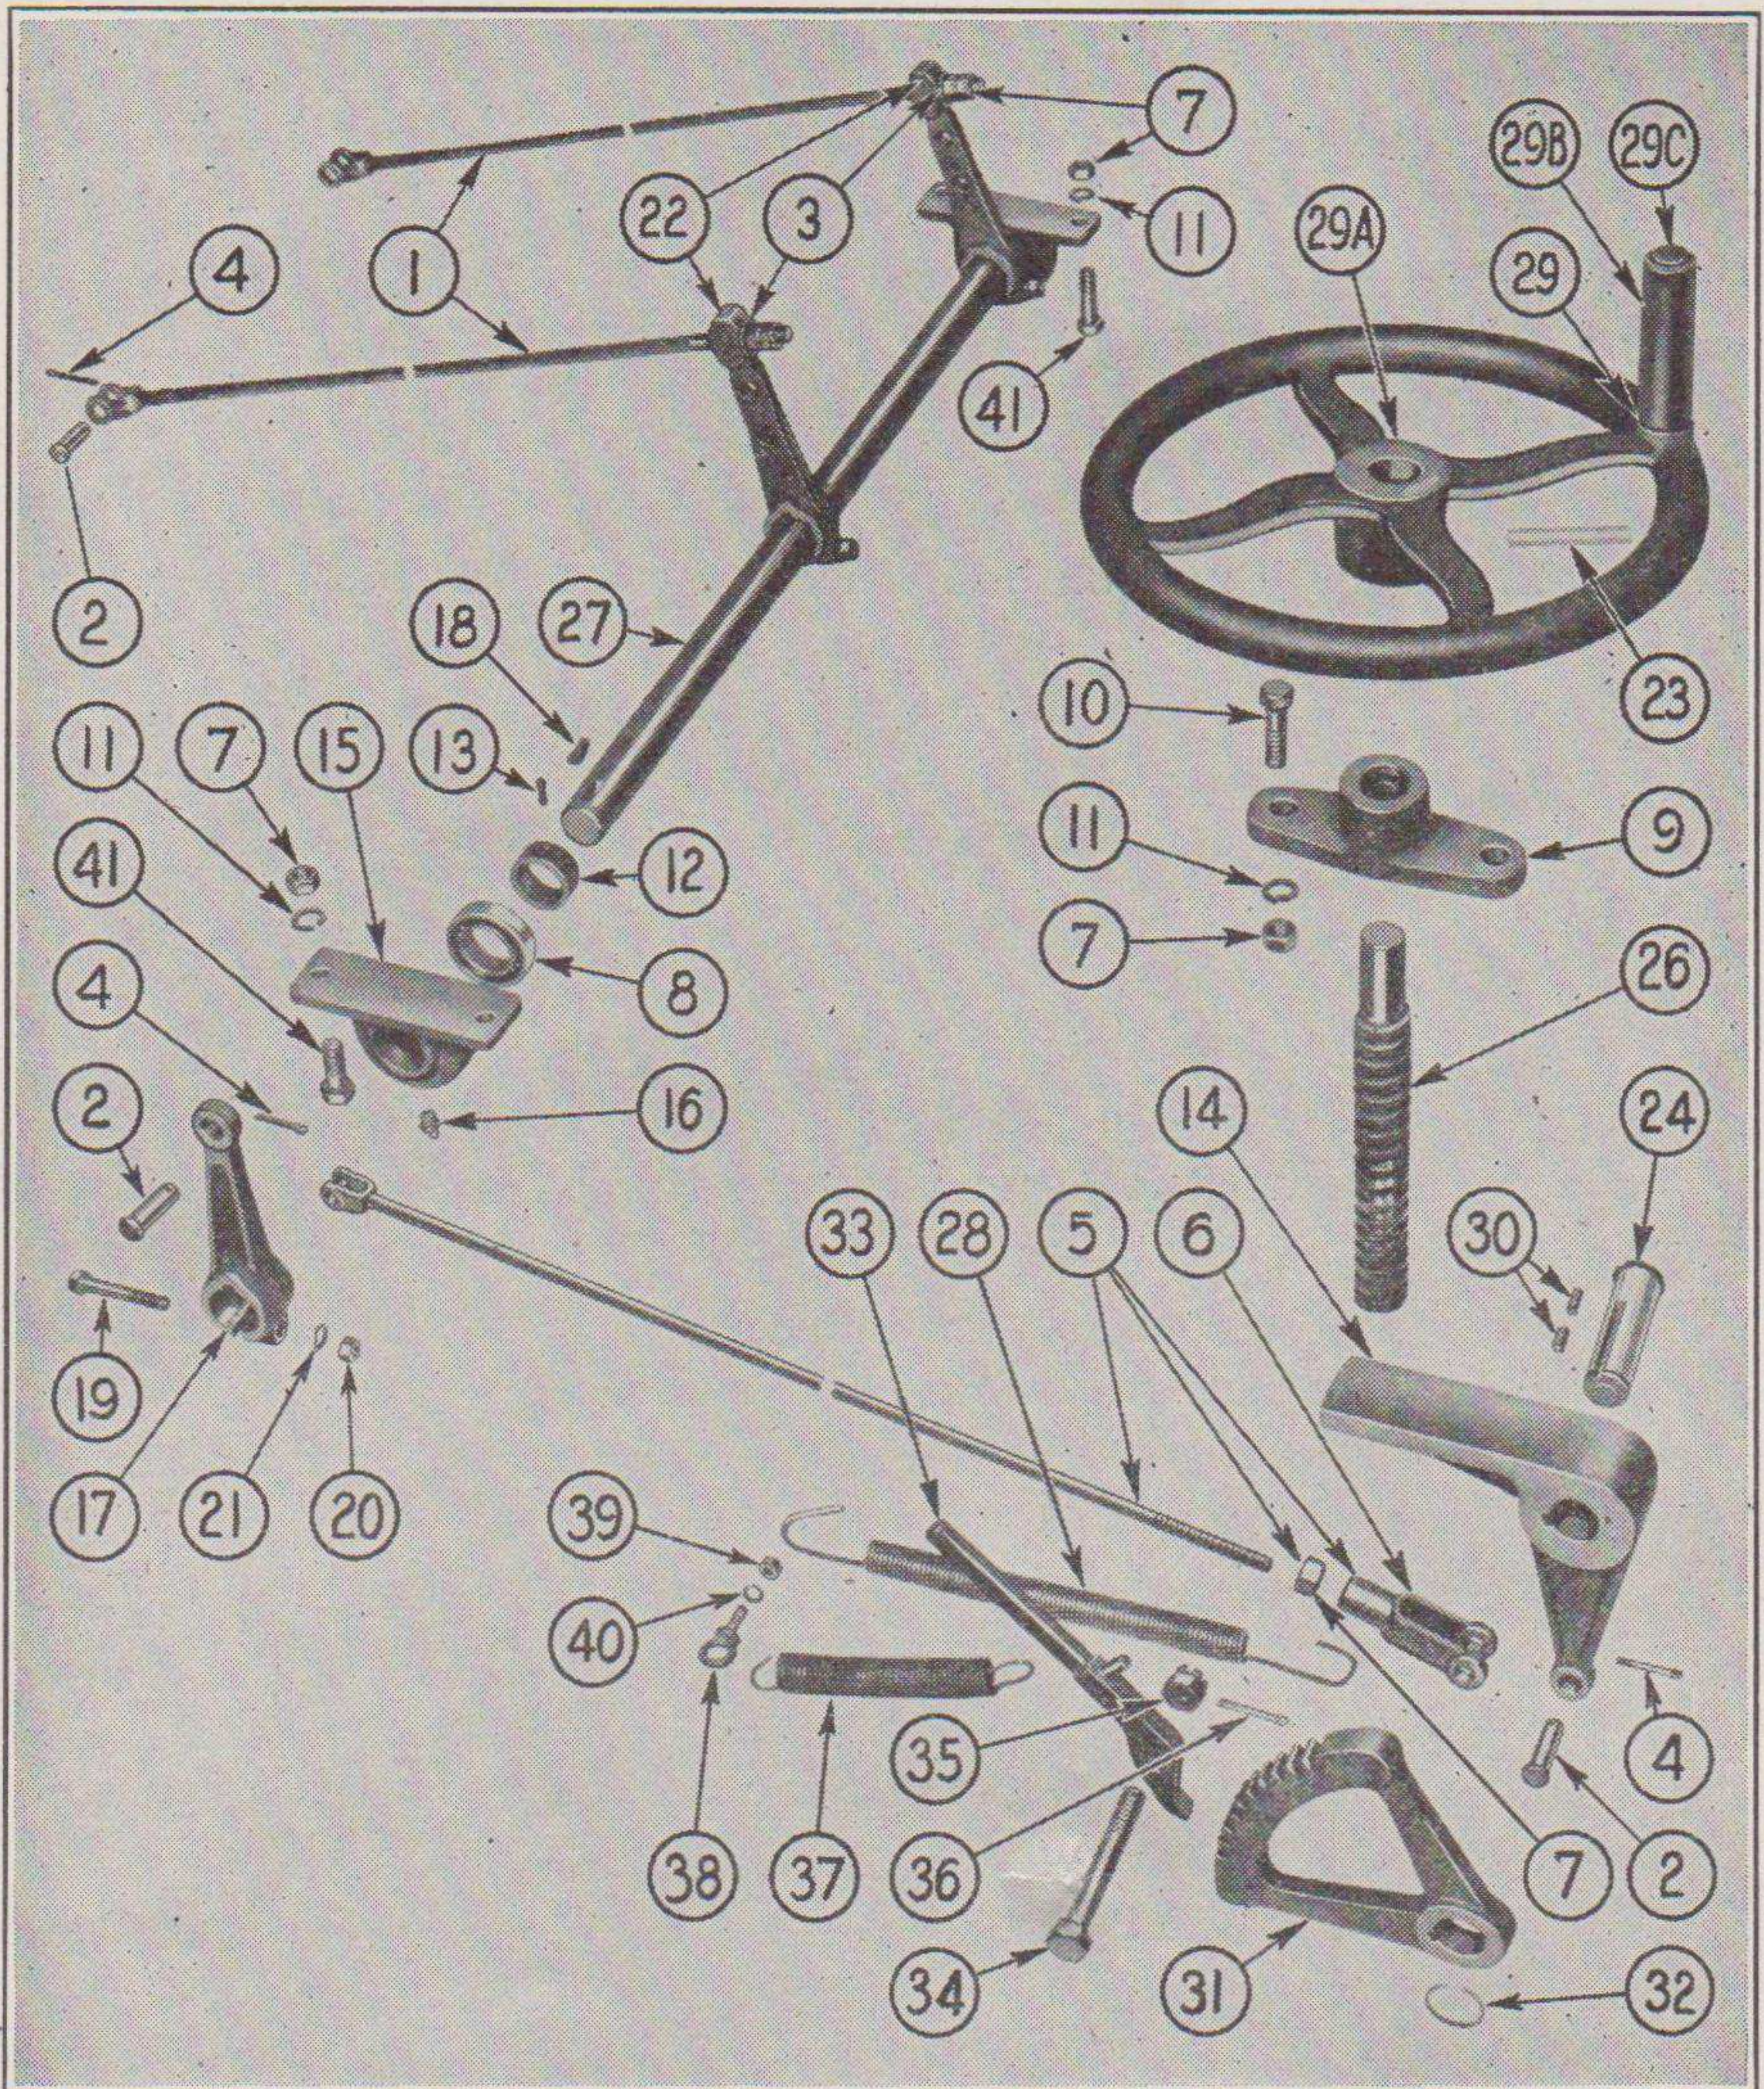

FIGURE 15. HAND PARKING BRAKE ASSEMBLY
5. HAND PARKING BRAKE (Refer to Figure 15).—*a.* The hand parking brake is located on the right side, at the drop in the frame. Turning the wheel in a clockwise direction applies the brakes.
b. Replacing the wheel.—(1) Drive the pin (23), in the wheel hub out and tap the wheel off the screw (26).
c. Replacing screw.—(1) No attempt should be made to straighten a bent screw.